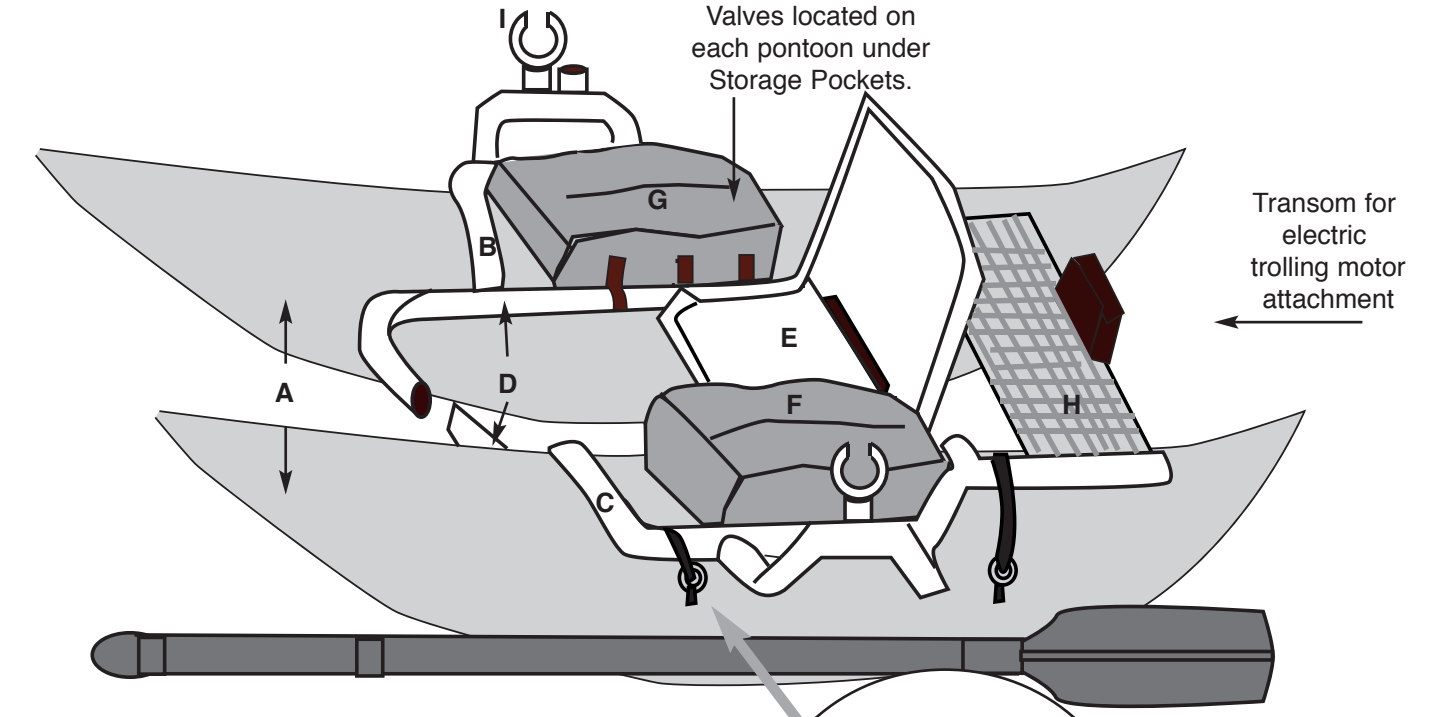

**Figure 4
2. Assemble Seat Support Member to Left and Right Frame Members using (4) Short Snap Pins (see figure 4).
3. Remove Protective Support Bar and assemble Cargo Deck to back of Left and Right Frame Member using (2) Short Snap Pins (see figure 4)
4. Assemble Foot Bars to front of Left and Right Frame Member (see figure 4).
**HIN (HULL IDENTIFICATION NUMBER) IS LOCATED ON SQUARE TUBING OF SEAT SUPPORT FRAME MEMBER AND ON RIGHT MAIN FRAME MEMBER (SEE FIGURE 4)**